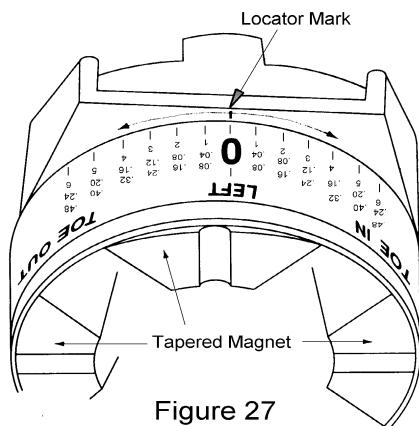

Figure 27
- 1) Determine the manufacturer's preferred total toe specification for the front wheels. Rotate the tapered magnet on each Laser Toe Gauge to **one-half** this specified value. (See Fig. 27)
- 1) Determine the manufacturer's preferred total toe specification for the rear wheels. Rotate the tapered magnet on each of the Rear Retro-screens to **one-half** this specified value. (See Fig. 27)